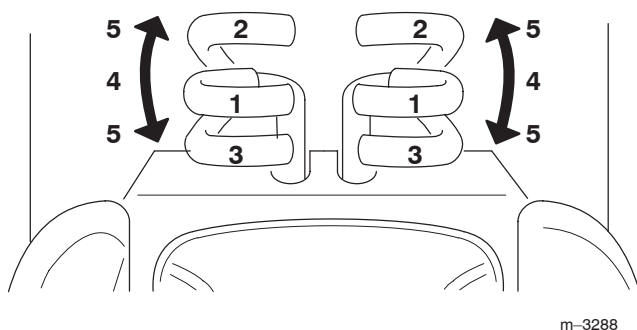

Figure 14
2. To go forward, slowly push the motion control levers forward (Fig. 14).
To go straight, move both motion control levers the same distance (Fig. 14).
To turn move the motion control lever toward neutral, on the side you want to turn toward (Fig. 14).
2. To go backward, slowly pull the motion control levers rearward (Fig. 14).